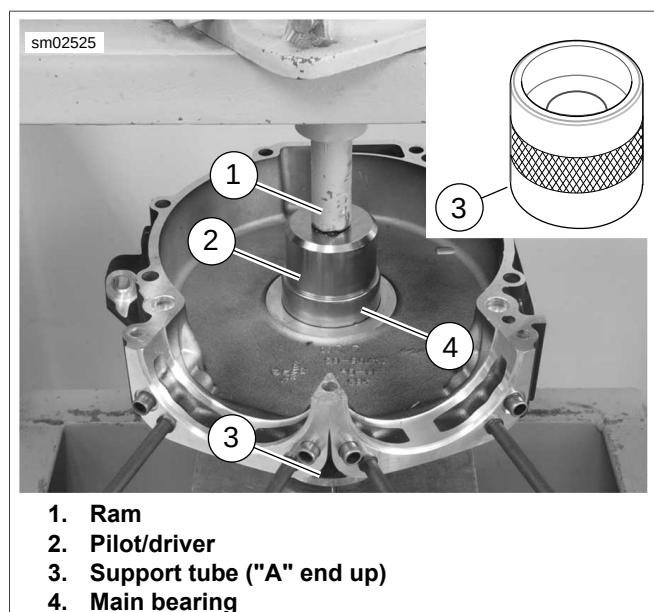

Figure 3-138. Left Main Bearing Installation
2. See Figure 3-138. Place a thin film of clean engine oil on outer diameter of **new** main bearing (4).
3. Place support tube (3) on hydraulic press table with the "A" end up.
6. Slide pilot/driver (2) through bearing into support tube.